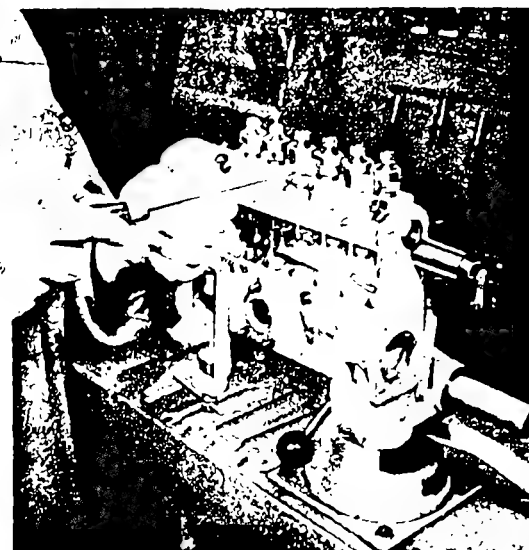
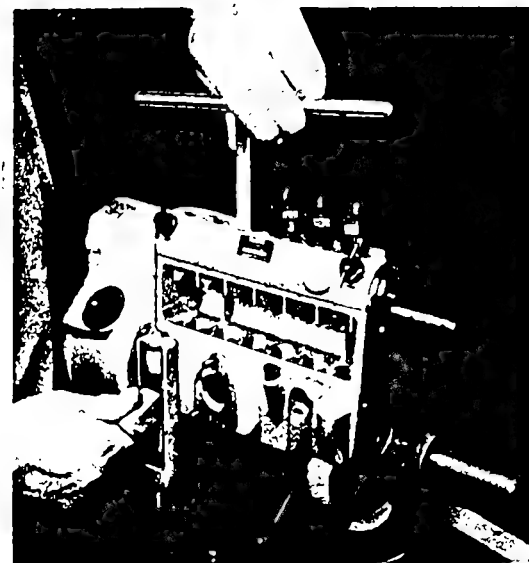

Fig. 26 Unscrew clamping jaws
Fig. 27 Unscrew delivery-valve holders with spanner
9. Unscrew clamping jaws (22, Fig. 26) and screw out delivery-valve holders (19) by means of spanner; lift off and deposit spring (17) for delivery valve (16) (Fig. 27).